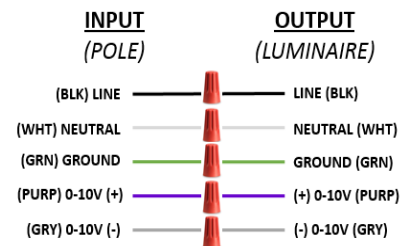

Fig. 3
10. Splice field wires to luminaire leads in pole (input and grounding) and tie with strain relief on bolster plate. (See Fig. 3)